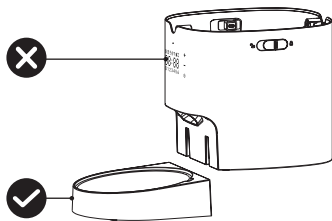

Figure 1
- ① Remove the plastic food bowl from the main unit (Figure 1)